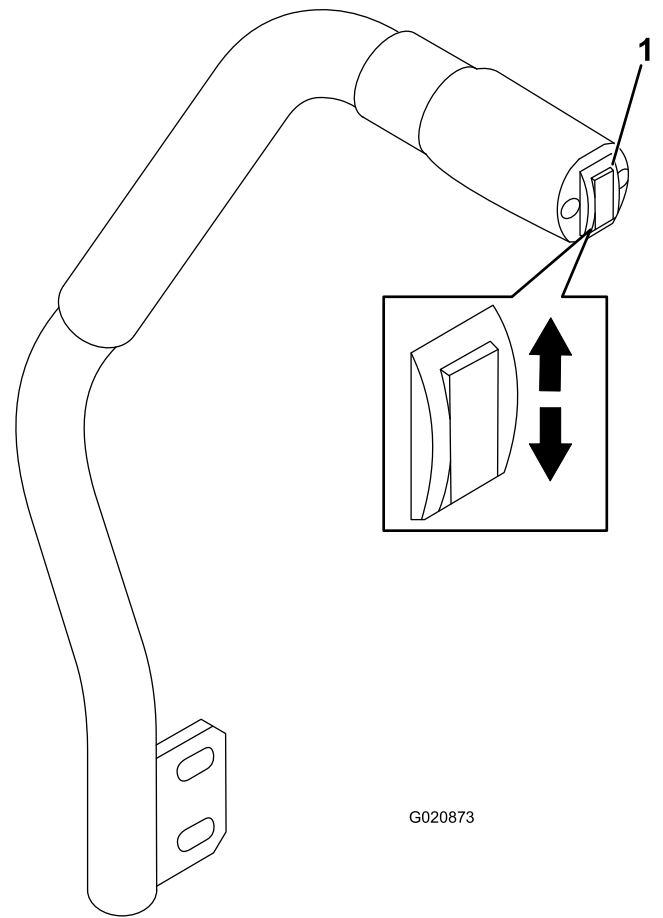

Figure 27
- To lower the mower deck, push the deck-lift switch down (Figure 27).
- To raise the mower deck, push the deck-lift switch up (Figure 27).
The deck-lift switch raises and lowers the mower deck (Figure 27). The engine must be running for you to use this lever.
1. With the engine running, push the deck-lift switch up until the mower deck is fully raised and **release the switch immediately** (Figure 27).